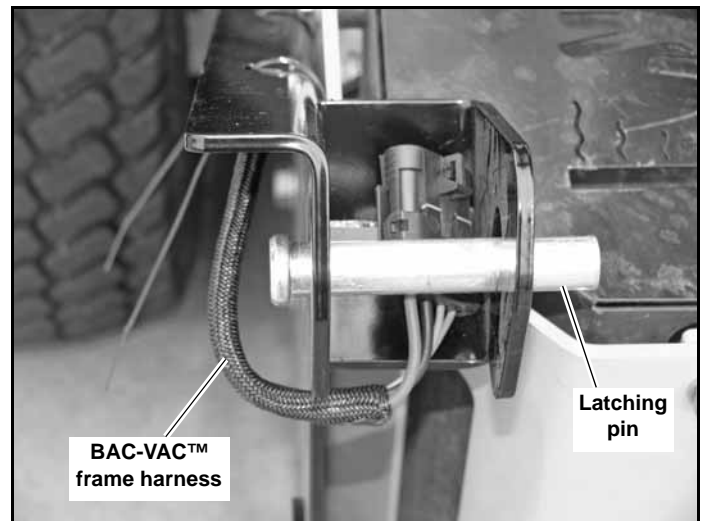

Figure 4-5
5. Re-insert the latching pins into frame mount for storage. Secure in place with the hair pins. Tuck the BAC-VAC™ frame harness under the left side latching pin for protection. Figure 4-5